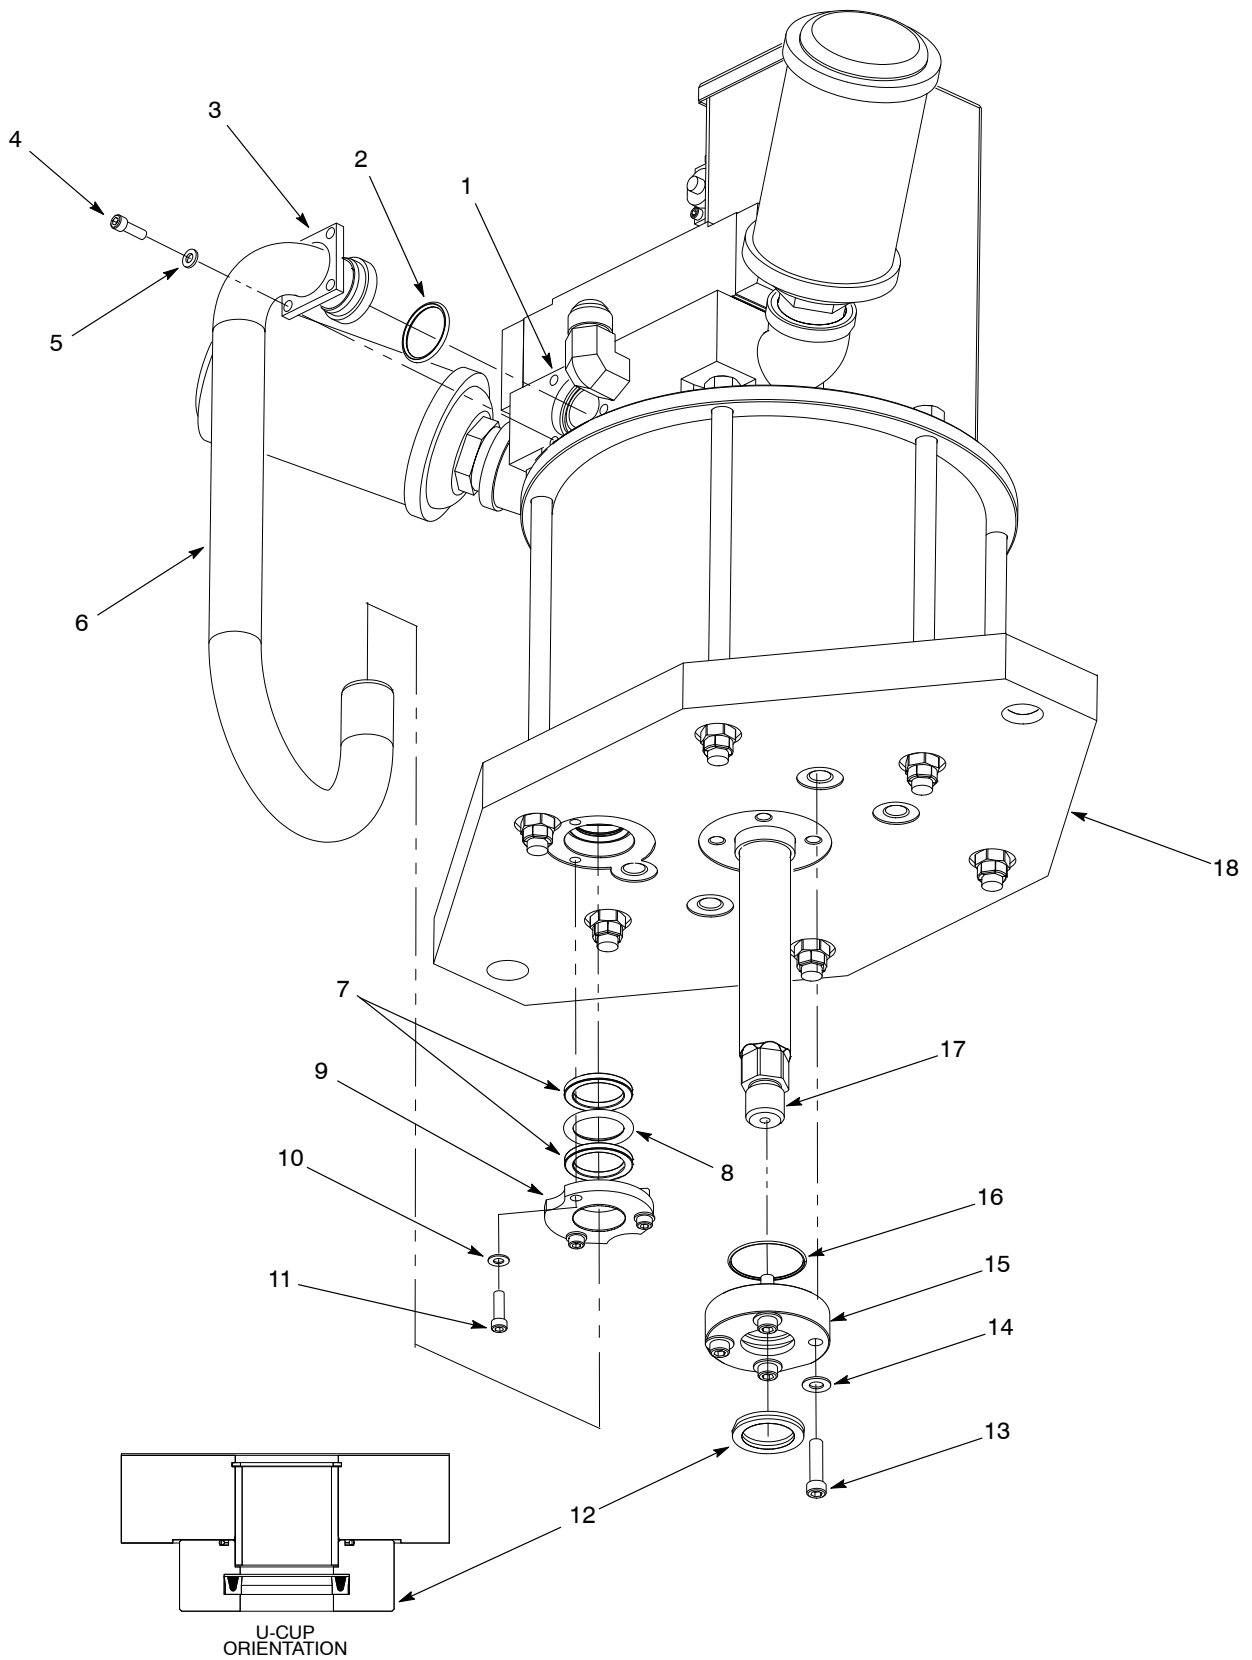

Figure 10 Replacing the Base Plate Seals and Rings
1. See Figure 10. Remove the screws (4) and washers (5) securing the upper supply tube retainer (3) to the air manifold (1).
2. Remove the screws (11) and washers (10) securing the lower supply tube retainer (9) to the base plate (18).
3. Remove the supply tube (6) from the air manifold (1) and base plate (18).
5. Remove the O-ring (2) from the air manifold (1). Remove the Quad-rings (7) and O-ring (8) from the base plate (18). Discard the Quad- and O-rings.
1. See Figure 10. Lubricate the Quad-rings (7) and O-rings (8) with TFE grease. Install the Quad-rings and O-ring into the base plate (18) as shown.
2. Install the lower retainer to the base plate (18) using the washers (10) and screws (11). Only finger tighten the screws at this time.
3. Lubricate the air manifold O-ring (2) with TFE grease and install it into the air manifold (1).
4. Install the upper retainer (3) onto the air supply tube (6).
5. Carefully insert the bottom portion of the air supply tube (6) through the lower retainer (9) and into the base plate (18).
6. Carefully insert the upper portion of the air supply tube (6) into the air manifold (1).
7. Secure the upper retainer (3) to the air manifold (1) using the screws (4) and washers (5). Tighten the screws to 10–12 ft-lb (13–16 N•m).
8. Tighten the lower retainer screws (11) to 10–12 ft-lb (13–16 N•m).
1. See Figure 10. Remove the screws (13) and washers (14) securing the piston rod retainer (15) to the base plate (17).
2. Remove the O-ring (16) and U-cup (12) from the piston rod retainer (15). Discard the O-ring and U-cup.
3. Lubricate the new O-ring (16) and U-cup (12) with TFE grease. Insert the O-ring and U-cup into the piston rod retainer (15) as shown.
4. Install the piston rod retainer (15) onto the base plate (17) using the screws (13) and washers (14). Tighten the screws to 22–25 ft-lb (30–33 N•m).